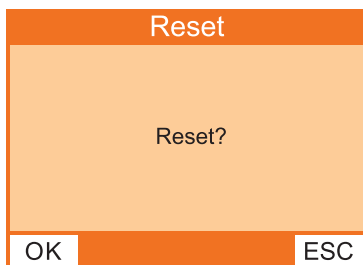

Fig. 14: **Reset** – start view
3. Press the Menu key. The start view of the **Reset** process will appear (fig. 14).